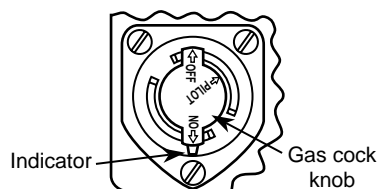

Figure 8. Gas Cock Knob
4. Depress gas control knob slightly and turn clockwise to **OFF** (see fig. 8). If knob is in **ON**, turn clockwise to **PILOT**, then depress knob slightly and turn clockwise to **OFF**.
5. Wait fifteen (15) minutes to clear out any gas. If you then smell gas, **STOP!** Follow **B** in the precautionary information above. If you don't smell gas, go to next step.
9. Depress control knob all the way and hold in. **Immediately** light the pilot with a match. Continue to hold the control knob down for about one (1) minute after the pilot is lit. Release knob and it will pop back up. Pilot should remain lit. If it goes out, repeat steps 4, 5, 8, and 9.